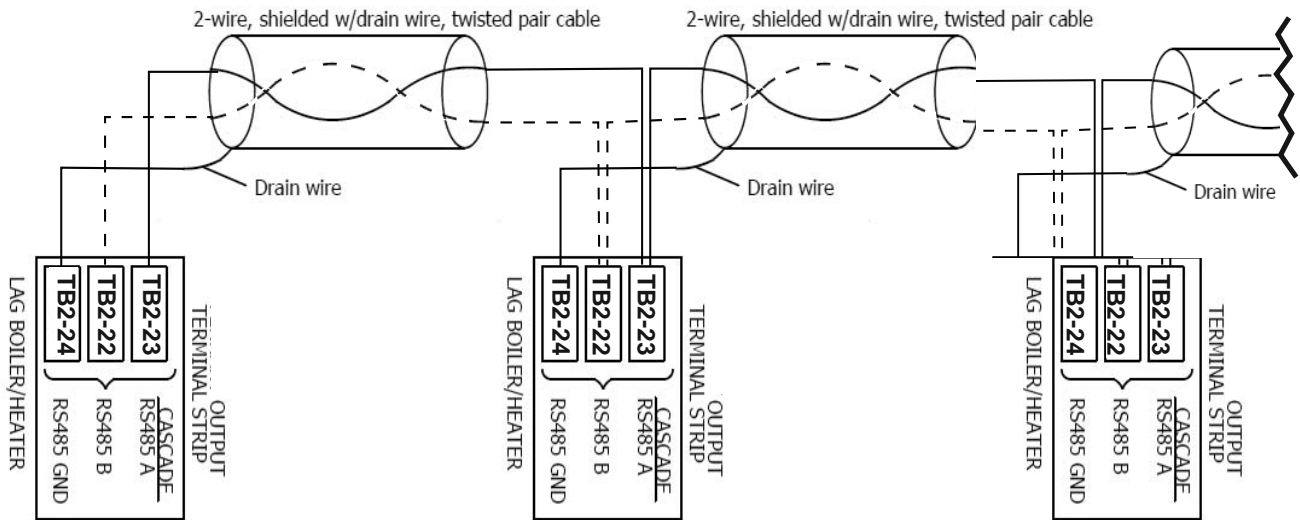

Figure 21. Cascade Wiring Connections
Communication between lead and lag units is accomplished using RS485. When wiring Copper Brute II units for cascade operations, use terminals 23 (A), 22 (B), and 24 (GND) of the output terminal strip. Use 2-wire twisted pair, shielded w/drain, communication cable between units. Referring to Figure 21, connect one end of the twisted pair wires to A (terminal 23), and the other to terminal B (terminal 22), and the drain wire to GND (terminal 24). Connect the other end of the cable to the next Copper Brute II, matching the termination wiring on the previous unit, except for GND. Only connect the drain wire to ground on one end of the cable to avoid ground loop issues. If more than two Copper Brute II units are cascaded together, daisy chain the wiring from Copper Brute II to Copper Brute II, keeping the cables as short as possible.